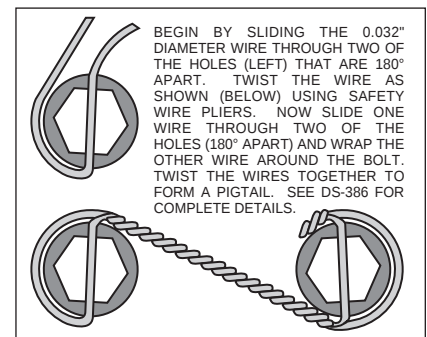

Figure 5. Safety Wire Diagram
- With the larger I.D. side of the rotor (4) facing away from the hat (3), bolt rotor (4) to hat (3) through the backside of the rotor using washers (5) and bolts (6). Using an alternating sequence, apply red *Loctite*® 271 to the threads and torque bolts to 140 in-lb. For an added measure of security, the bolts may be safety wired using standard 0.032 inch diameter stainless steel safety wire as shown in Figure 5. Please refer to Wilwood's data sheet DS-386 (available at www.wilwood.com/Pdf/DataSheets/ds386.pdf) for complete safety wire installation instructions.